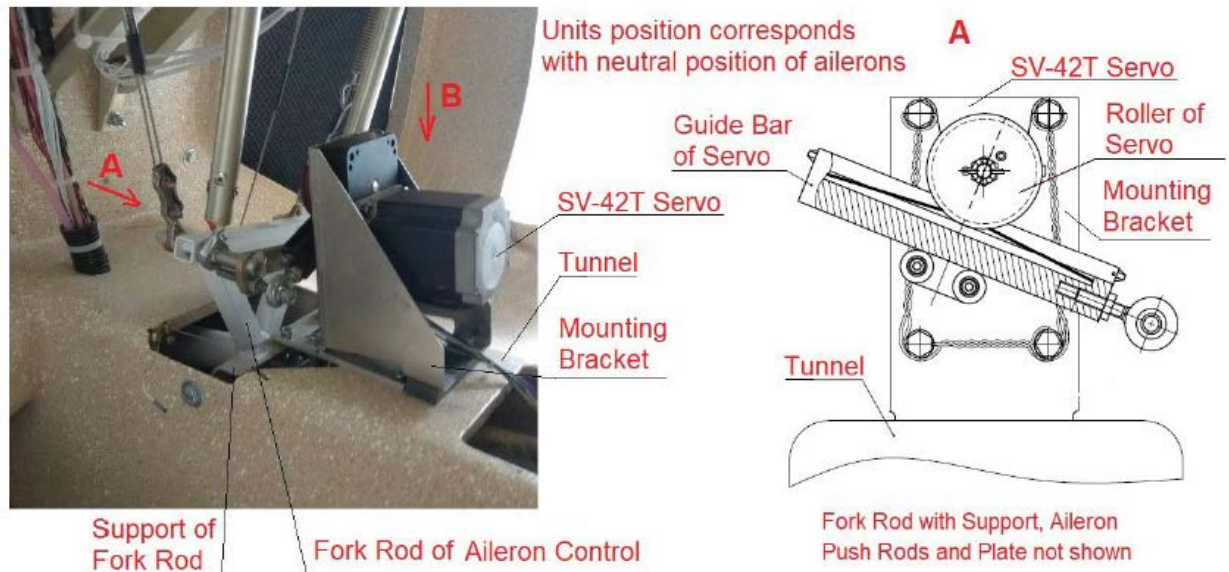
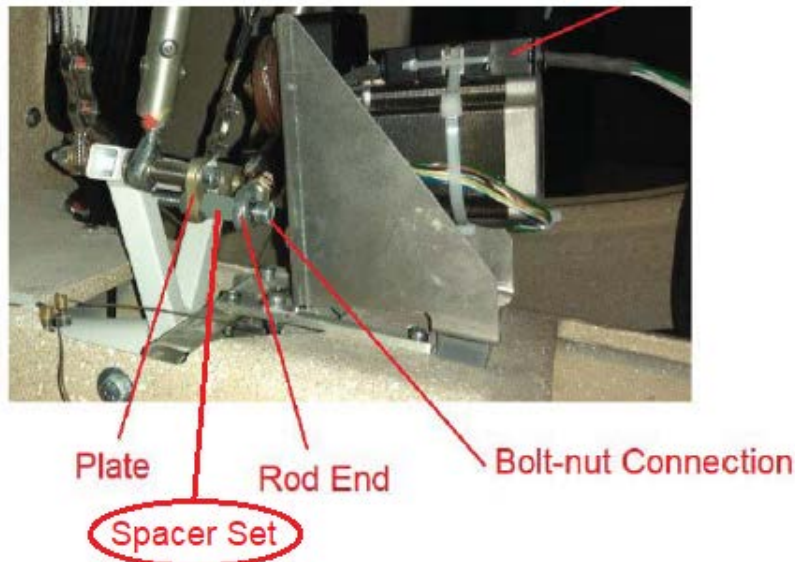
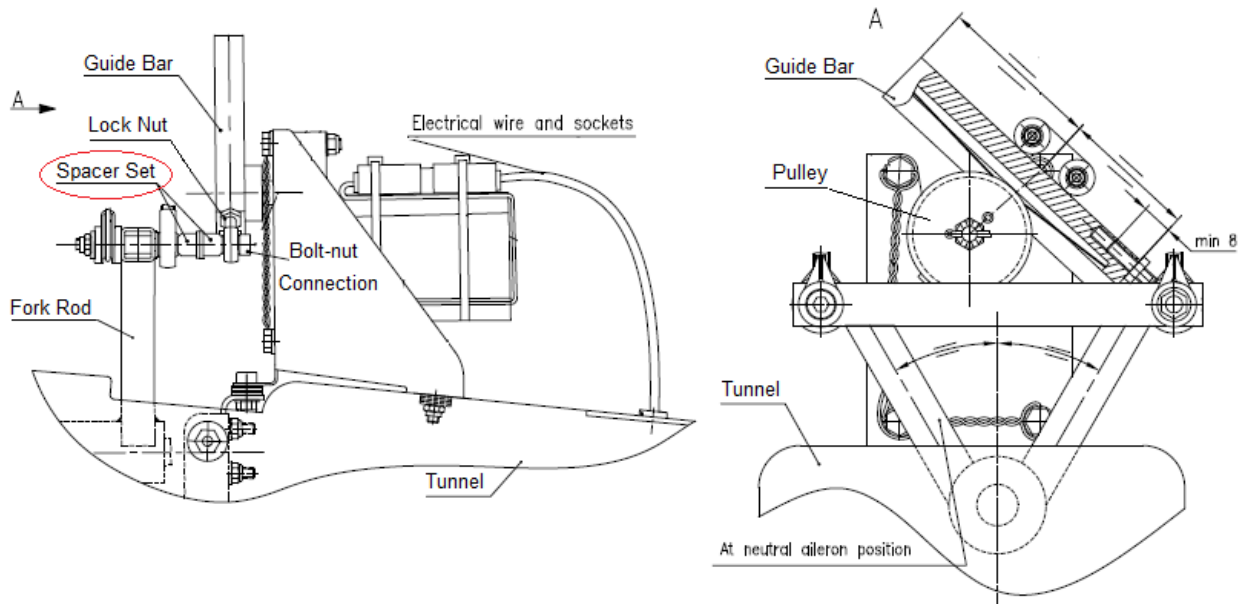

Fig. 3. Installation of Roll Servo SV42T to CTLS
Fig. 4a. Mechanical connection of servo to aileron control (CTLS)
Fig. 4b. Mechanical connection of servo to aileron control (CTSL)
Installations of autopilot roll servo SV42T to CTLS and to CT Supralight planes is very similar with some small differences. With this the servo pulley removal procedure provided below is applicable for both airplane types. Installation of system is shown on Fig. 3.
Detach servo guide bar with rod end from an aileron control system by unscrewing of the bolt-nut connection (Fig. 4a and Fig. 4b)
- **Note:** Guide bar has thread bores for rod end on both ends. Verify the correct position of guide bar relative to the pulley. The correct position for CTLS installation is shown on Fig. 3 (guide bar under the pulley). The correct position for CTSL installation is shown on Fig. 4b (guide bar above the pulley).
3. Connect the rod end to the control system by the bolt-nut connection with spacer set. To be done in back order of item 2 of subchapter 3.3.4. Use the new self-locking nut p/n C9996334. Tight the bolt-nut connection with torque 9 Nm.